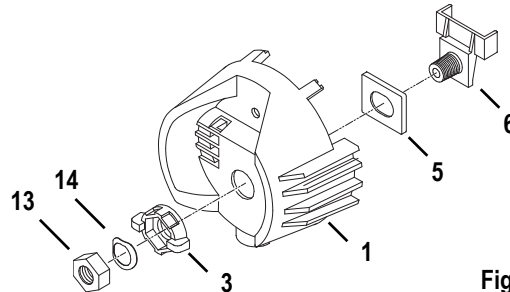

Figure 6
- Step 16: Install the bushing cup (5) into the housing socket casting (1) as shown in Figure 6. The cup should slide smoothly up and down, but not side to side.
- Step 17: Insert the threaded end of the index hub (6) through the holes in the bushing cup and the back of the housing socket casting (1).
- Step 18: Slide the X-Y knob (3) over the exposed index hub bolt (6), then insert the wave washer (14) on the bolt and secure with the 9/16 hex nut (13). Hand tighten the X-Y knob (3).